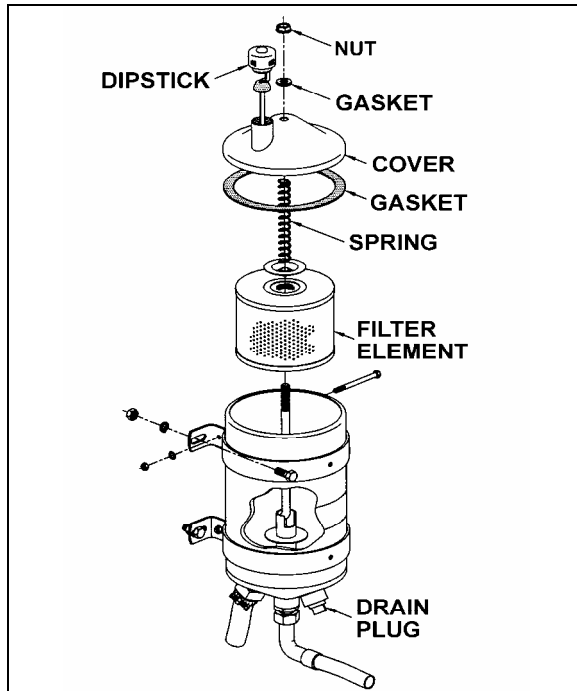

FIGURE 18: POWER STEERING FLUID RESERVOIR 14018A
3. Insert dipstick in reservoir. Remove it again to check fluid level (Fig. 18).